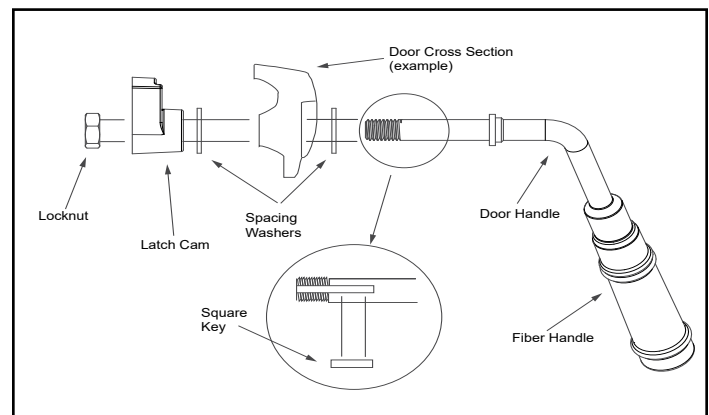

Figure 21.1
2. Install additional washer(s) as shown in **Figure 21.1**
6. Install fiber handle (**Figure 21.1**).